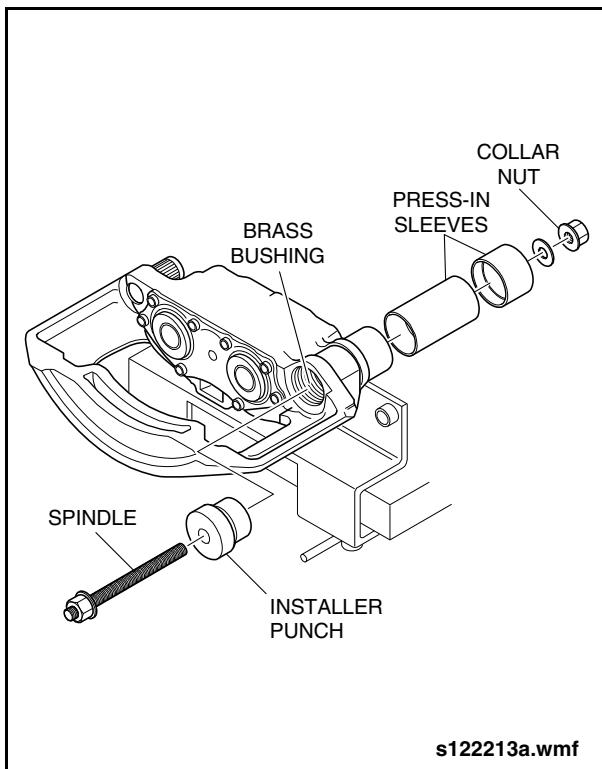

Fig. 2-125: Brass Bushing Removal
a. Assemble and install the installer punch, press-in sleeves, spindle, and collar nut (Items 72, 77, 75, 71, & 70 from special tools list). See "Fig. 2-125: Brass Bushing Removal" on page 112.